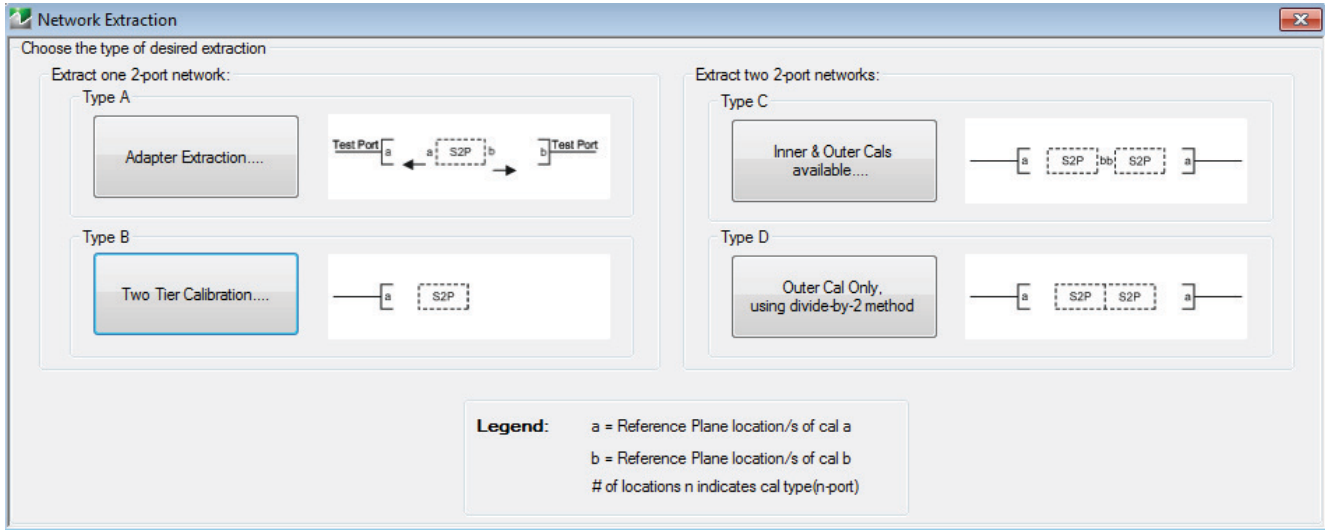

Figure A-2. Network Extraction for MS46131A 1-Port-Only Mode
- Type B network extraction (the Bauer-Penfield approach relying on two one-port calibrations on different planes) (see Figure A-2) is the only extraction tool available (as all others require multiport calibrations).